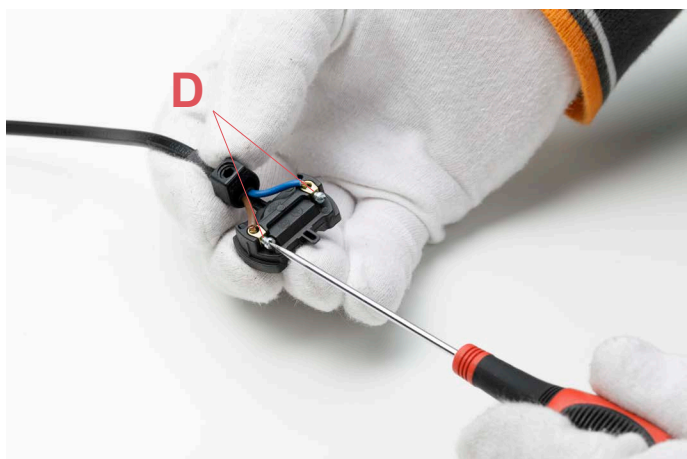

Fig.10
Connect the electrical wires (D) to the terminals of the lamp holder contacts respecting the polarities (L = Brown – N = Blue).(Fig.10 page 27)